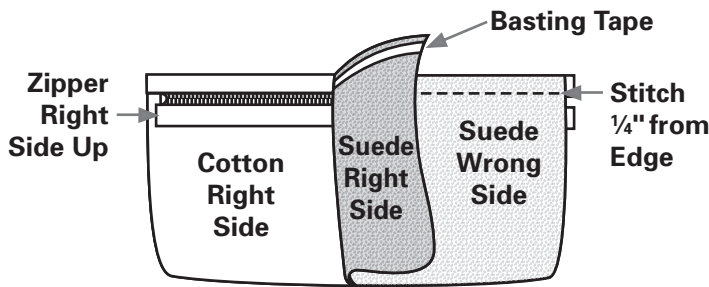

Fig. 5-3
- Adhere basting tape to the long straight edge on the right side of each faux suede and cotton rectangle. Remove the paper backing and adhere a suede rectangle to the right side of one zipper tape, aligning the edges and positioning the zipper pull $\frac{3}{4}$ inch (2 cm) from the short edge. Repeat to apply a cotton rectangle to the opposite side of the same zipper tape. Stitch the fabrics to the zipper tape $\frac{1}{4}$ inch (6 mm) from the edge. (Fig. 5-3) Then fold the sewn fabric pieces over the zipper tape with wrong sides together.